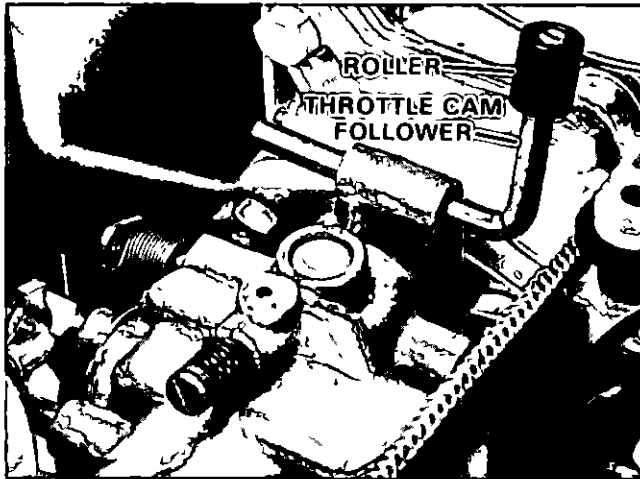

Figure 31 Installing Throttle Cam Follower and Roller
- B Install throttle cam follower with roller through port side of boss on carburetor Figure 31